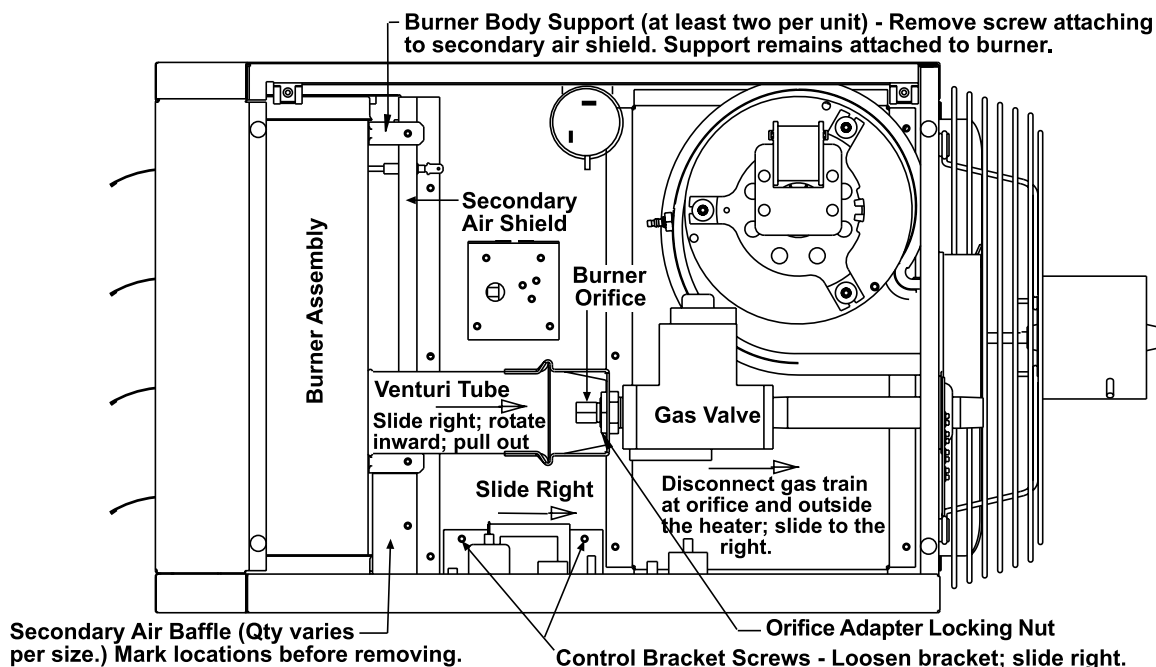

Figure 16. Typical Burner Assembly
Visually inspect the burner compartment (see Figure 16). If there is an accumulation of dirt, dust, and/or lint, clean the compartment and remove and clean the burner as follows:
2. Remove burner assembly (see Figure 16):
- (1) Remove four screws that secure end cap to burner housing.
- (2) Lightly tap end cap to remove it.
5. Re-install burner assembly (see Figure 16):